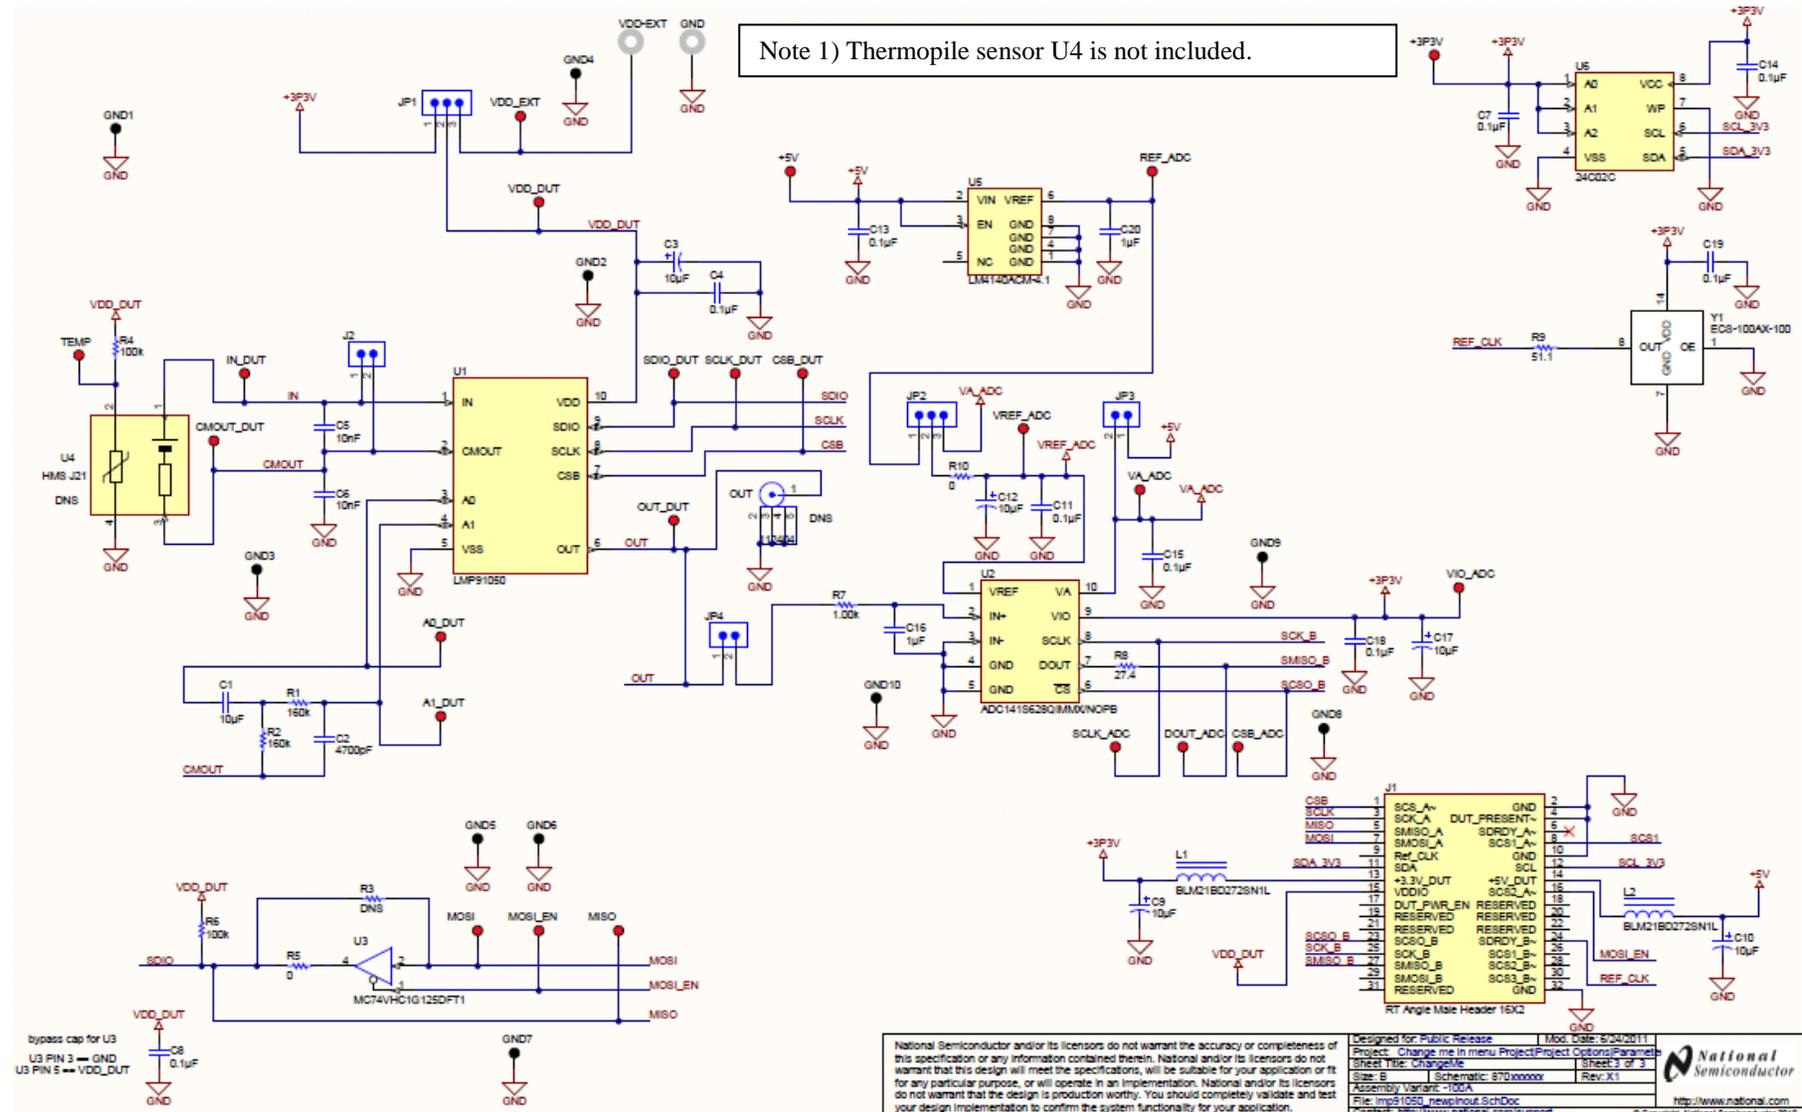

Figure 10 - LMP91050SDEVAL Schematic
3. The schematic for the LMP91050SDEVAL can be seen in Figure 10.
The schematic for the LMP91050SDEVAL can be seen in Figure 10.